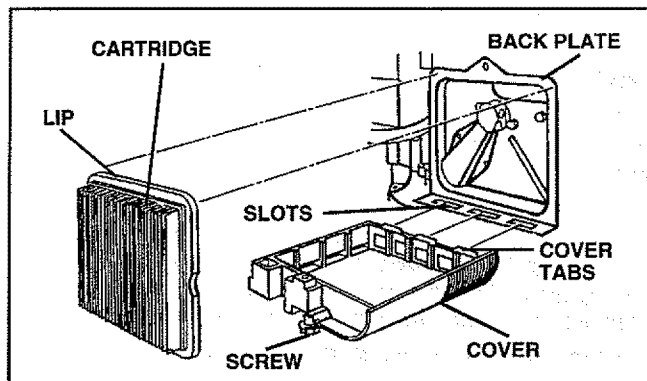

FIG. 9
**TO SERVICE AIR FILTER** (See Fig. 9)